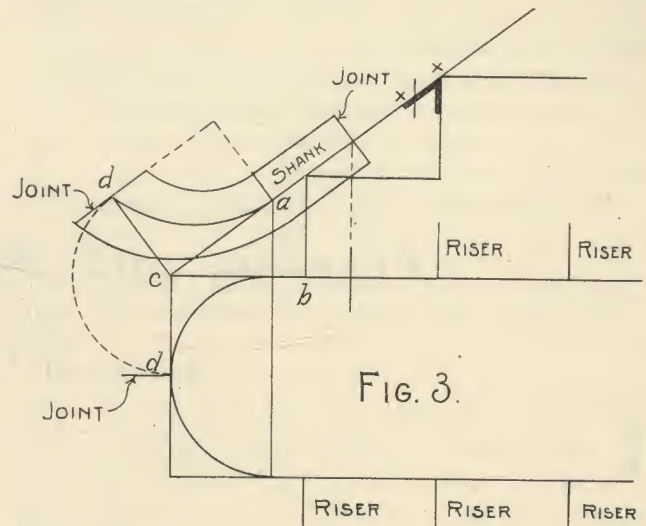
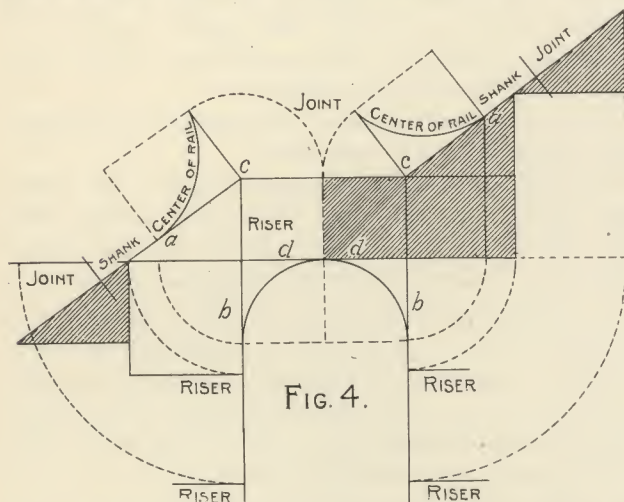

FIG. 3.
FIG. 4.
**I**N THE three first figures accompanying this article is shown a method to get out a rail for what is known in the trade as level landing stairways and in Figs. 4 and 5 a stairway having a riser in the center of a well-hole without the necessity of finding and applying bevels to twist the wreaths which re-
In Fig. 3 a riser is placed in the center of the well-hole at  $d$ , and yet by fixing the first riser of the flights adjoining at a distance from  $c$  equal a full tread as shown from  $c$  to  $b$  we obtain the same results as in the other figures.
In Fig. 4 is shown a more complete view of Fig. 3 in that it represents a partial elevation of both the bottom and top flights adjoining the well-hole; as well as the development of the tangents and central line of the two sections of the wreath.
stance we take our dimensions from Fig. 3, which, as explained, represents a stairway having a riser in the center of the well-hole.